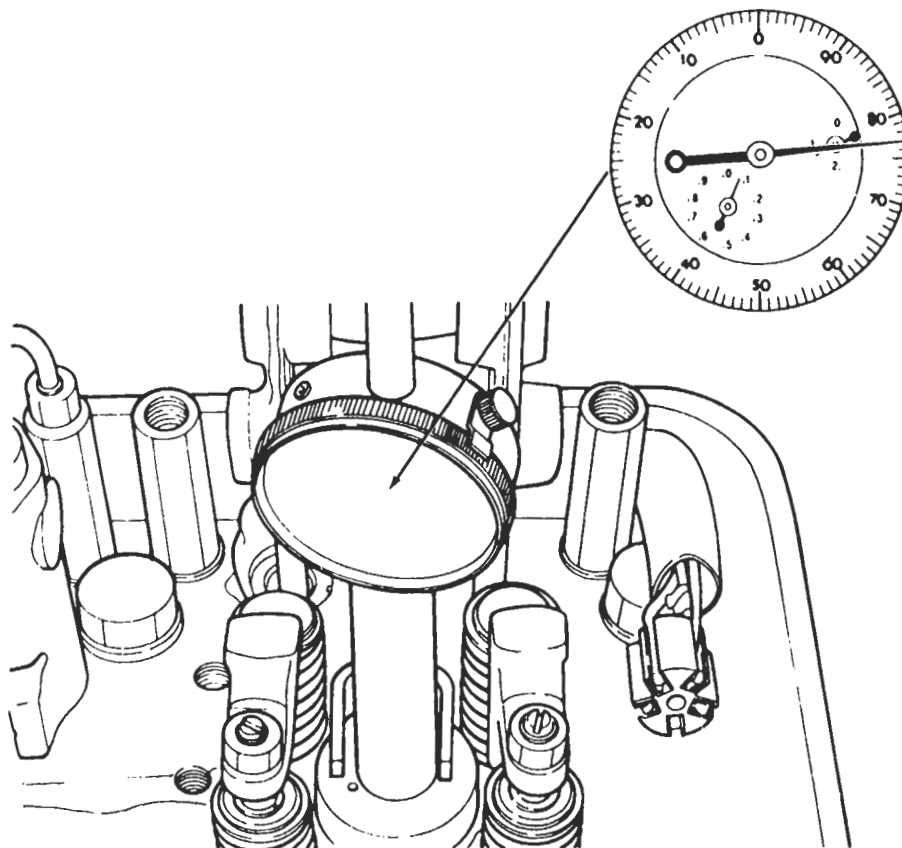

Figure 5. 1.077 Inches Piston Travel
3. Turn the crankshaft slowly, in the direction of rotation, until the dial indicator pointer reads exactly 1.077 inches of piston travel (Figure 5.)